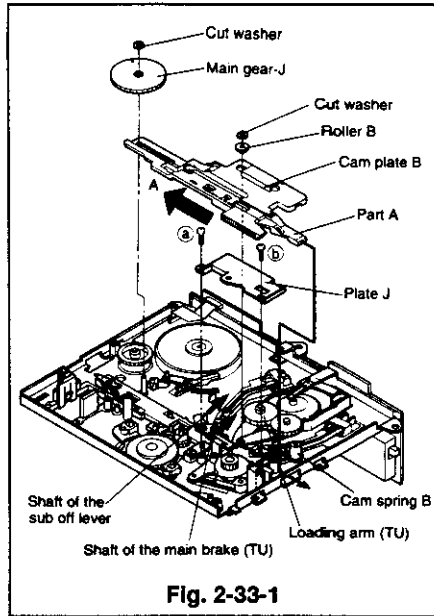
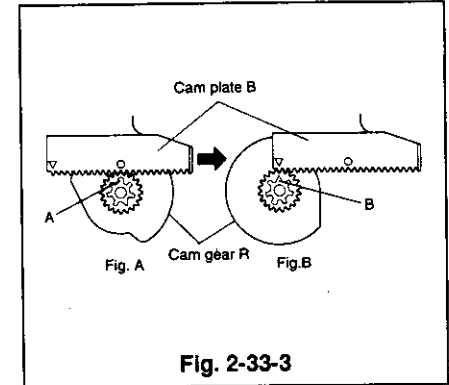

Fig. 2-33-1
Fig. 2-33-3
- ① Remove the two screws (a) and (b) to remove the plate J. (Fig. 2-33-1)
- ② Take off the cut washer fixed to the shaft of the loading arm (TU) to remove the roller B.
- ③ Remove the reel belt. (Refer to Para. 2-28 for the removal method.)
- ④ Remove the belt pulley. (Refer to Para. 2-28 for the removal method.)
- ⑤ Remove the loading motor assembly (which holds the motor holder). (Refer to Para. 2-29 for the removal method.)
- ⑥ Remove the main gear J. (Refer to Para. 2-30 for the removal method.)
- ⑦ Slide the cam plate B to the left (the direction shown by the arrow) to remove it.
- ③ Passing part A of the cam plate B under cam spring B insert it into the hole on the side of the main plate, as shown by the continuous line. (Refer to Fig. 2-33-1)
- ④ While keeping the rear section of cam plate B raised, align the cam plate B and the cam gear R so that the ○ mark on the cam plate B aligns with the part A on the cam gear R as shown in Fig. 2-33-3 (Fig. A). Still keeping the rear of cam plate B raised, slide it to the right until the △ mark on cam plate B and aligns with the part B on the cam gear R, refer Fig. 2-33-3 (Fig. B). From this position lower the rear of the cam plate B unto the already aligned loading gears TU and SP, refer 2 above. Shift the sub off lever and the main brake TU in the directions shown by the arrows to install them. (Refer to Fig. 2-33-1)
- ⑤ Fix the roller B to the shaft of the loading arm (TU) and secure it with the new cut washer.
- ⑥ Install the plate J and secure it with the two screws (a) and (b).
- ⑦ Install the main gear J. (Refer to Para. 2-30 for the installation method.)
- ⑧ Install the loading motor assembly (which holds the motor holder). (Refer to Para. 2-29 for the installation method.)
- ⑨ Install the belt pulley. (Refer to Para. 2-28 for the installation method.)
- ⑩ Fasten the reel belt. (Refer to Para. 2-28 for the installation method.)